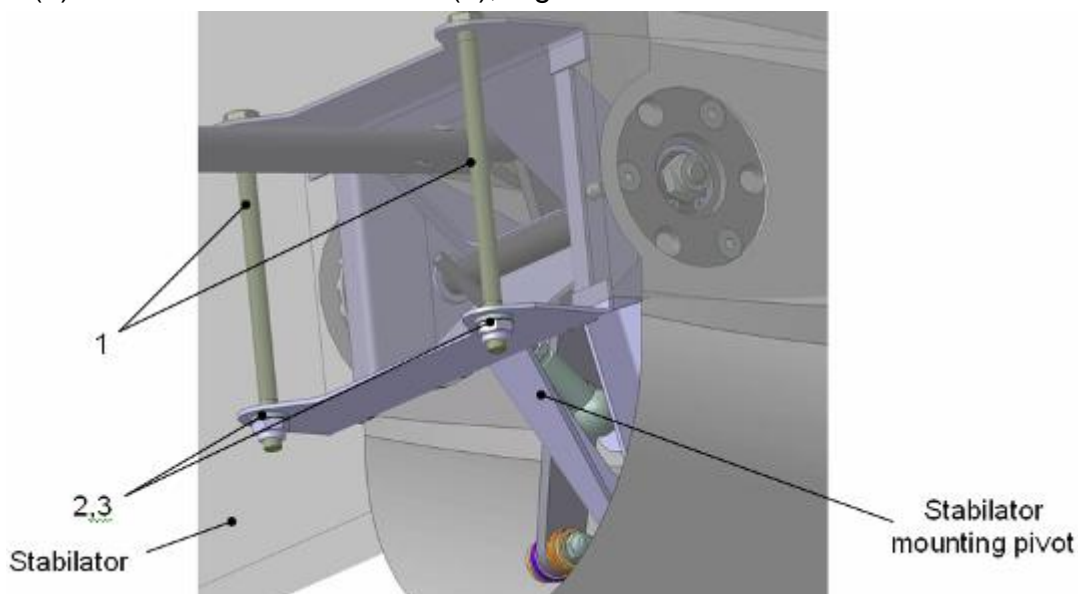

Fig. 4-17
1. Match fixing holes of the Stabilator with fixing holes of the Stabilator Mounting Pivot. Insert bolts (1) and secure with new nuts (2), Fig. 4-17.